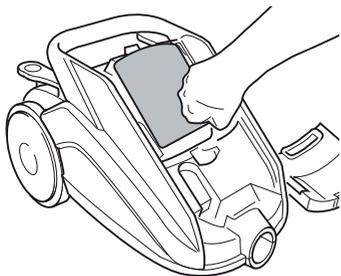

Fig. 28
The **motor protection filter (Fig. 28)** prevents larger particles from destroying the motor.
4. Remove the motor protection filter together with the holder from the filter bracket at the tab provided for this purpose, bottom right (Fig. 28).